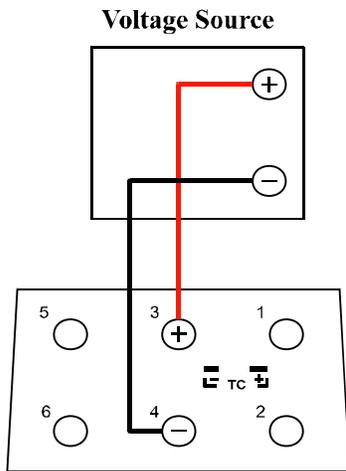

FIGURE 9
3. Hi Calibration: Connect a Voltage Source (Set to 200V) to terminals 3 and 4 of the 830 (See figure 9). **CAUTION: Note polarity.** Press *STORE/RESET* and then press *TYPE/ENG UNITS*.
3. Hi Calibration: Connect an AC Voltage Source (Set to 240V, 60Hz) to terminals 3 and 4 of the 830 (See figure 9). **CAUTION: Note polarity.** Press *STORE/RESET* and then press *TYPE/ENG UNITS*.